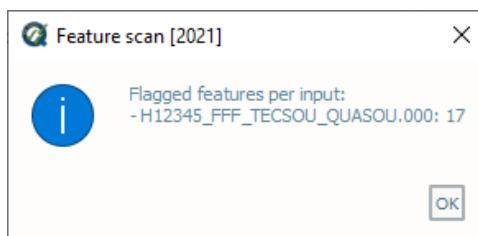

Fig. 2.50: The output message at the end of Feature scan execution.
- After computing, the output window opens automatically, the results are shown(Fig. 2.50).